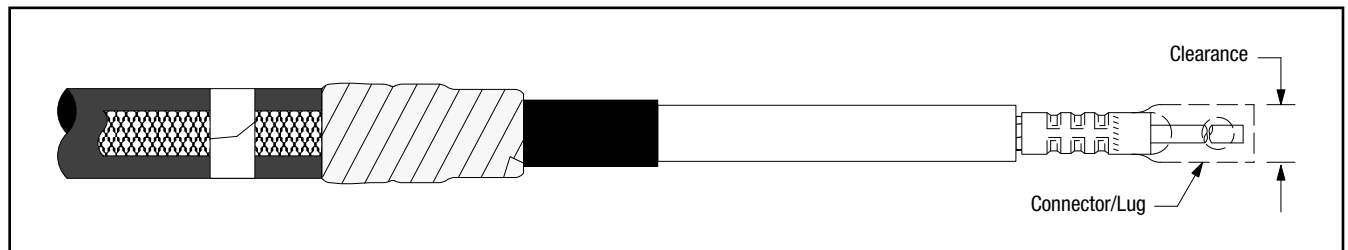

Figure 5
- 4.1 Check to insure 3M™ Silicone Rubber Termination QT–III termination assembly fits over the selected lug or connector. If lug or connector (*Figure 5*) will not fit through the termination core, clean the insulation (*per Step 5.0*) and slide termination on cable before installing lug or connector. **DO NOT REMOVE CORE AT THIS TIME.**